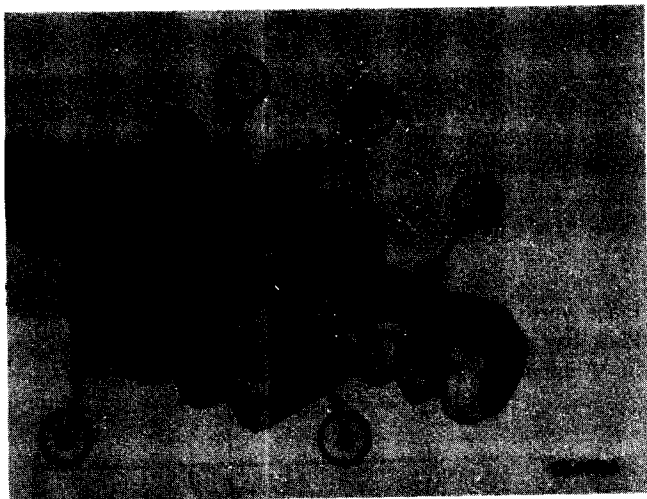

Figure 8-4
Try action of ball nut on worm. Nut must rotate smoothly with no evidence of binding or roughness. If damage is evident, disassemble as follows (Fig. 8-4):
Install ball return guide clamp (2, Fig. 8-4) on ball nut with screw (1).